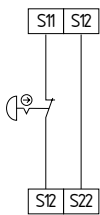

Fig. 6
**Single-channel emergency stop circuit with command devices to ISO 13850 and IEC 60947-5-5 (Fig. 6)**